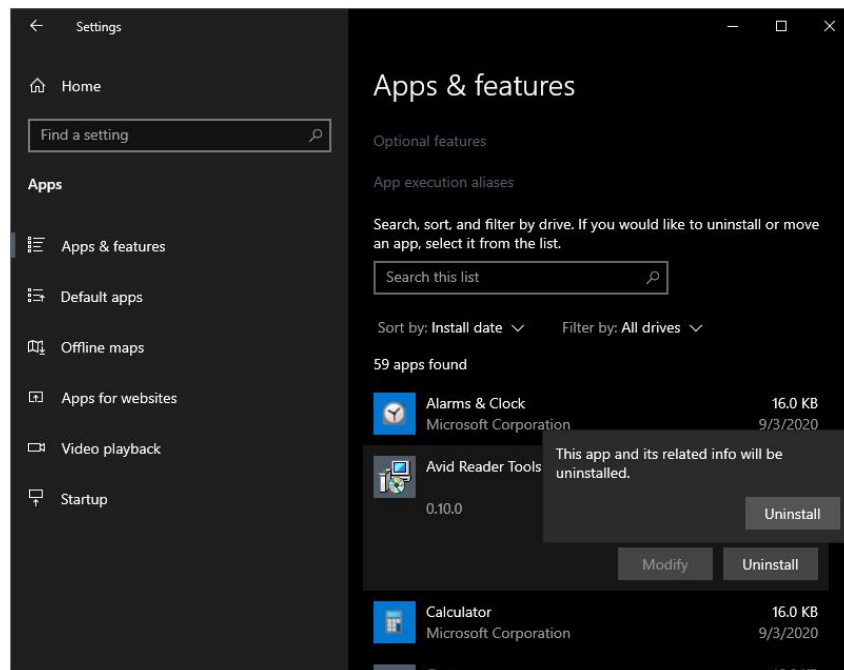

Figure 20: *Opening windows settings*
3. Select the Avid® Reader Tools item and press 'Uninstall'. Press 'Uninstall' again when the message in Figure 20 appears.